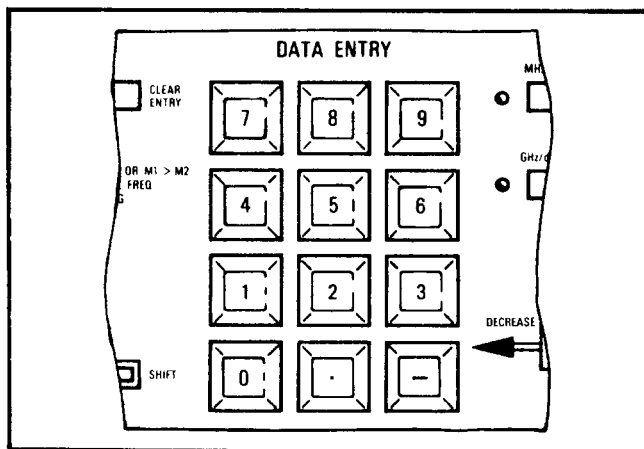

Figure 3-5. DATA ENTRY Keypad
b. DATA ENTRY Keypad (Figure 3-5). The DATA ENTRY keypad is used to change